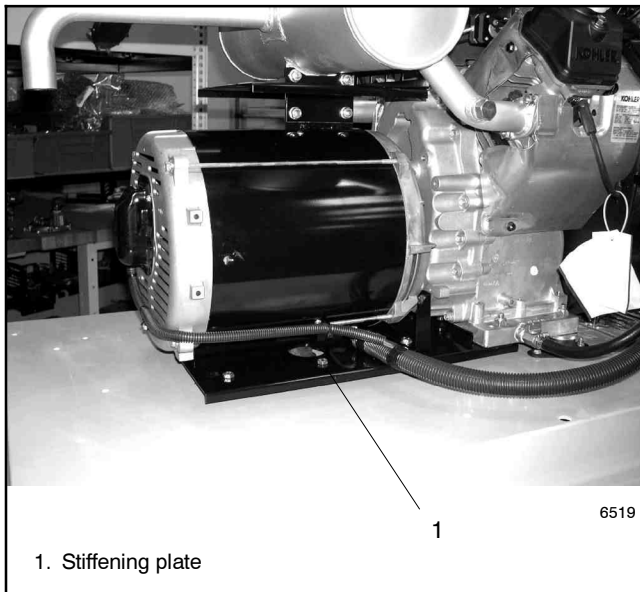
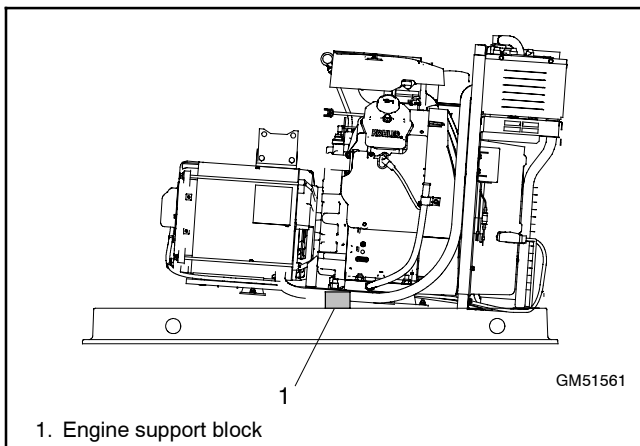
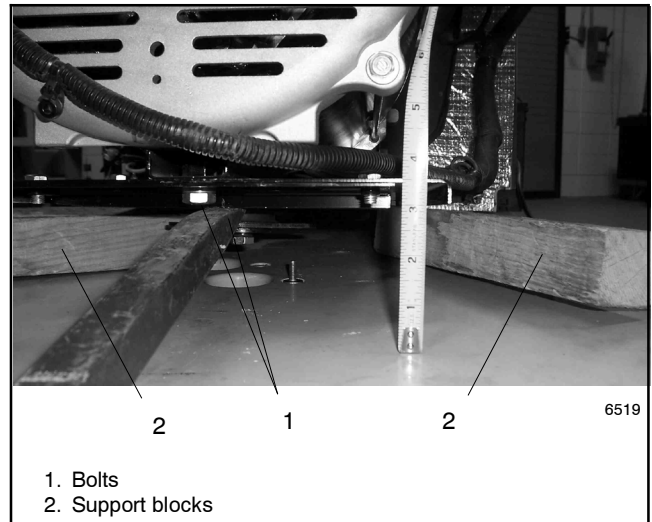

Figure 6-10 Stiffening Plate (if equipped)
Figure 6-11 Generator Set, Right Side
Figure 6-12 Supporting the Alternator
18. If the unit is not equipped with the stiffening plate shown in Figure 6-10, raise the alternator end of the generator set enough to place a thin block of wood beneath the rear of the engine. See Figure 6-11.
19. If the unit is equipped with a stiffening plate as shown in Figure 6-10, raise the alternator end 75–90 mm (3–3.5 inches). Place wood blocks under both sides of the plate. See Figure 6-12.
20. Remove the bolts holding the vibromount and the stiffening plate to the bottom of the alternator. See Figure 6-12.